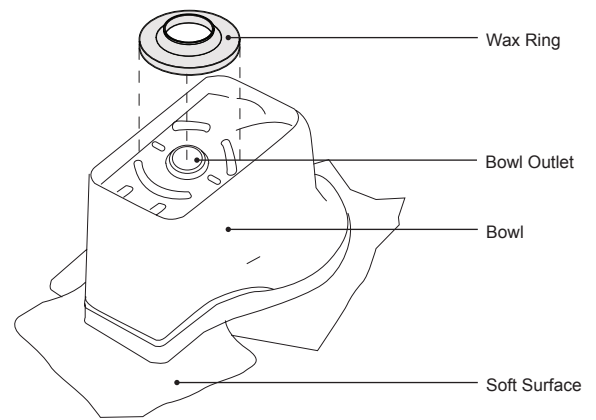

Figure 3
**⚠** When placing the wax ring over the toilet outlet, the tapered flange must be facing up (Figure 3). This tapered flange will rest in the opening in the floor.
**2** Place the wax ring over the toilet outlet opening (Figure 3).